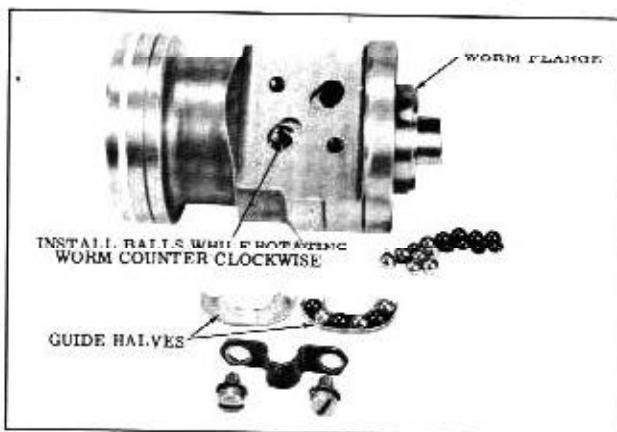

Fig. 4-21 Installing Balls
3. Turn the worm until the worm groove is aligned with the lower ball return guide hole. (Fig. 4-21)